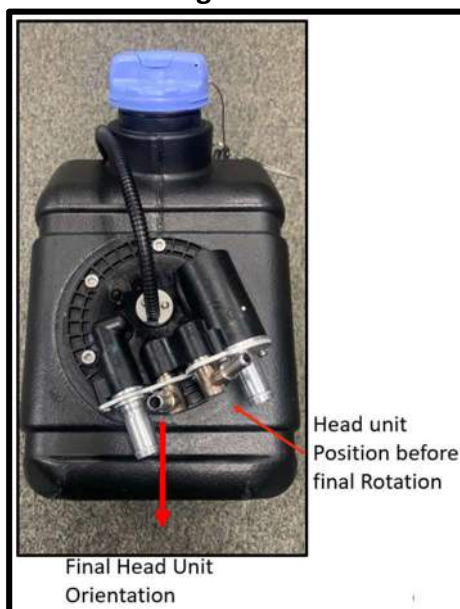

Figure 2.10 Installation of Head Unit
- 8) Position the head unit as shown below **Figure 2.10** before rotating it to its final position.